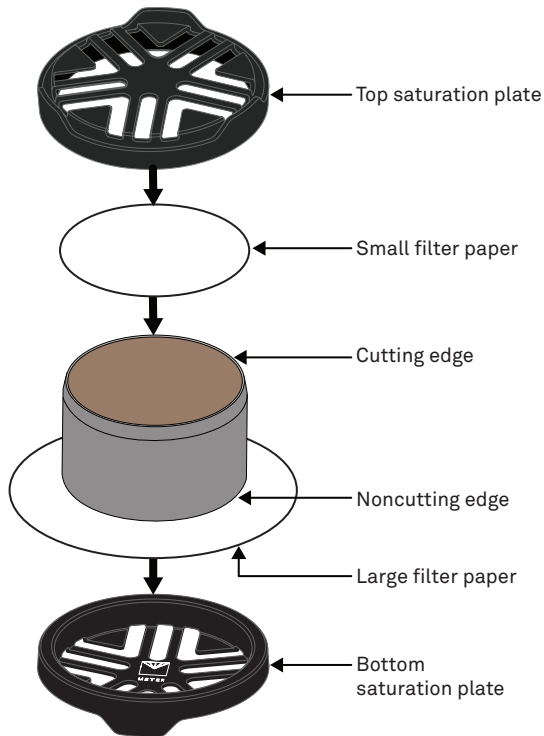

Figure 11 Large filter paper placement
11. Place one of the small filter papers on the cutting side of the sample ring (Figure 11).